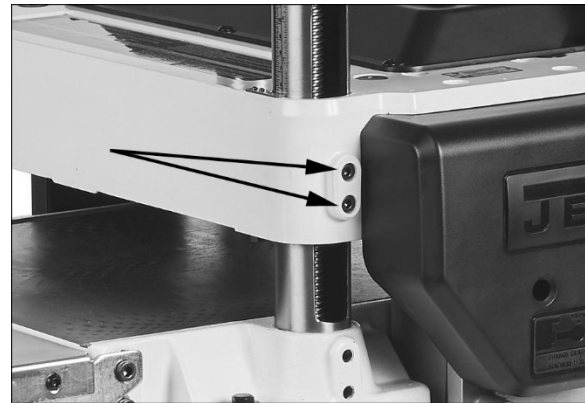

Figure 9-2
1. On the side of the table that needs correcting, locate the two socket head cap screws for each column (Figure 9-2). Loosen both screws for each column on the side you wish to adjust.